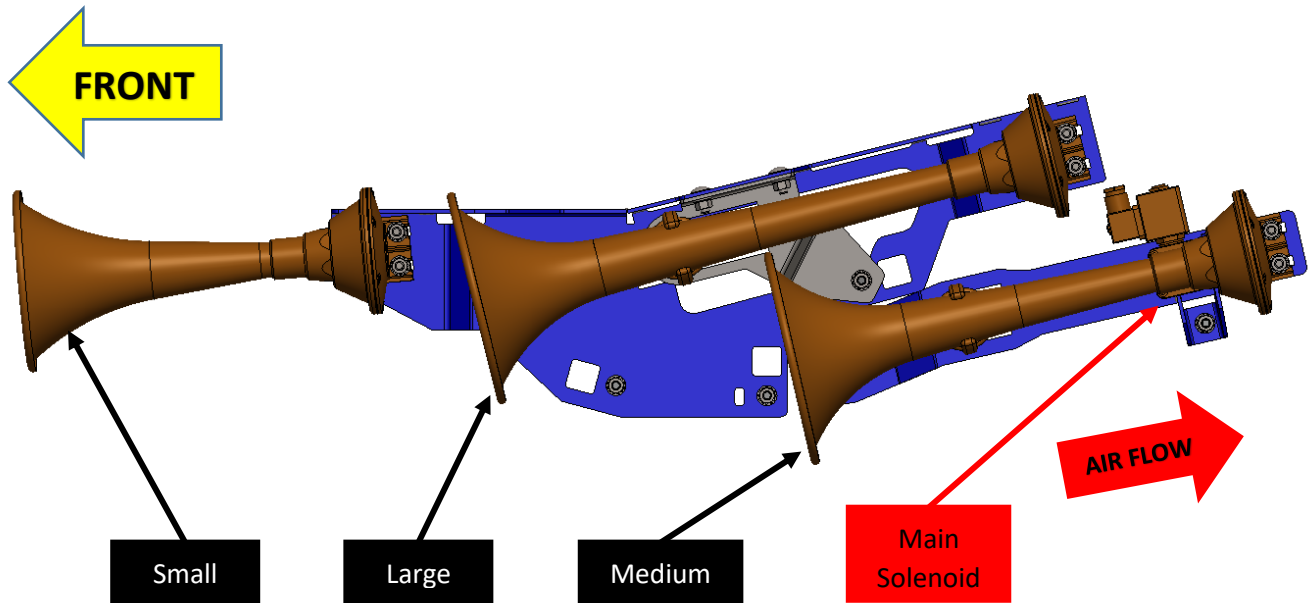

Figure 34 – Air Horn Layout (730 Horns shown with Trumpets attached); same for 734/230 Kits
10.11.1. Mount all Air Horn Drivers following layout shown in Figure 34 below. Mount Air Horn Drivers using hardware #3, #5, #7, & #13. **Standard Knurled bolt "Stack-up" DOES NOT apply.** Hand tighten only.
- 10.13.1. Re-attach Horn Trumpets to their respective Air Horn Drivers, as shown in Figure 34 above; if using Ore-Locks, it's necessary to first slide Trumpet throats through Ore-Locks and into Air Horn Drivers. Tighten snugly using both hands to twist along bell end.